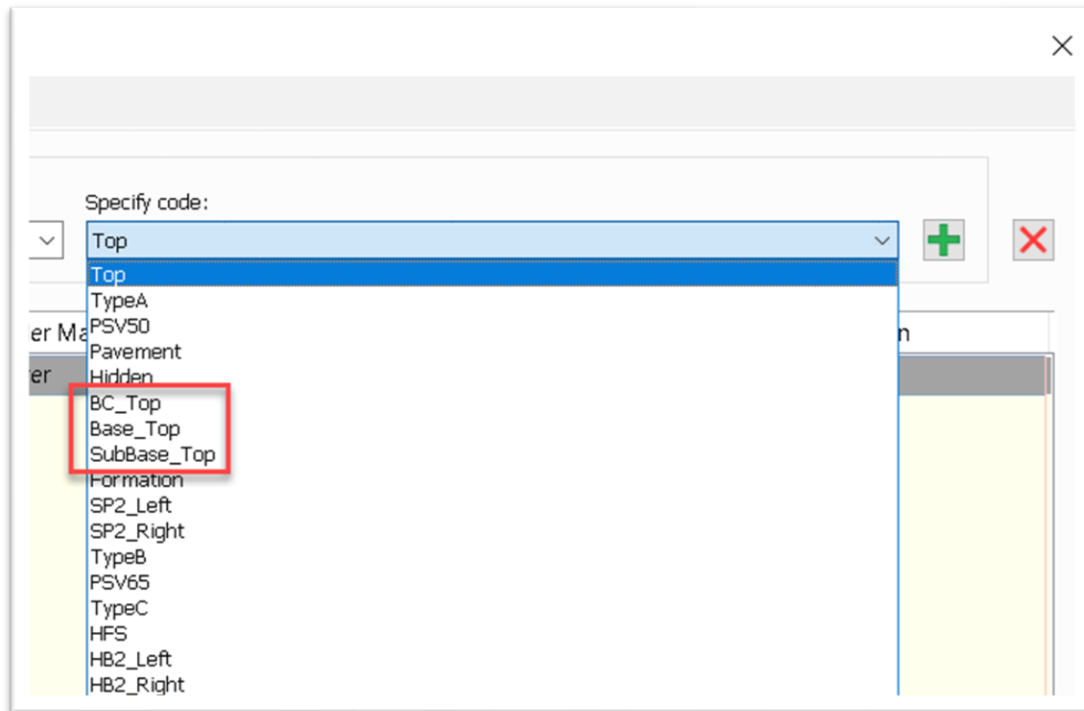

Figure 28 - Intermediate Link Code Names
- **XX_Top e.g. BC_Top** – This is a fixed code where XX represents an abbreviated description of the pavement layer (See Figure 28). This allows a corridor surface for each layer to be created easily by selecting the relevant link code